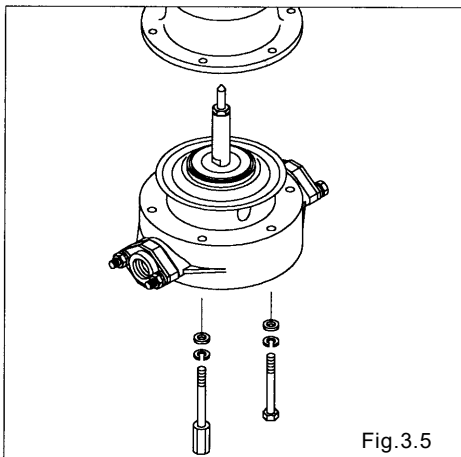

Fig.3.5
- Remove the 6 out-chamber locking bolts and studs respectively, and remove the out-chamber. (AD-10, AD-25) [Fig.3.5]
- Remove the 8 out-chamber locking bolts, studs and nuts respectively, and remove the out-chamber. (AD-40, AD-50) [Fig.3.5]
- Pull out the diaphragm, center disk and center rod from the main body. [Fig.3.5]